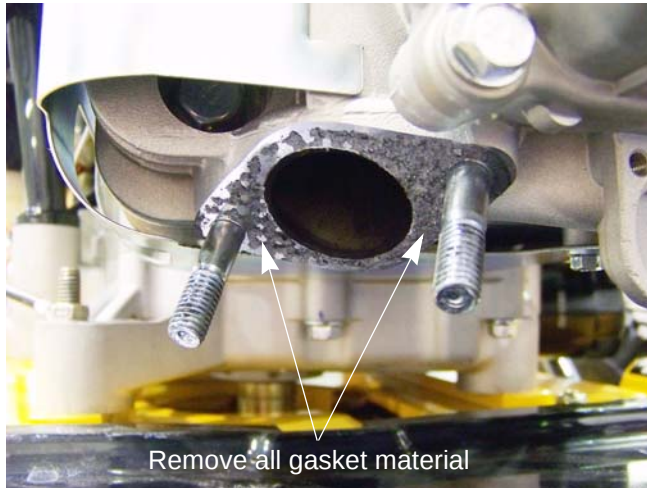

Figure 8.6
6. Clean all of the gasket material off of the cylinder head and the muffler. See Figure 8.6.